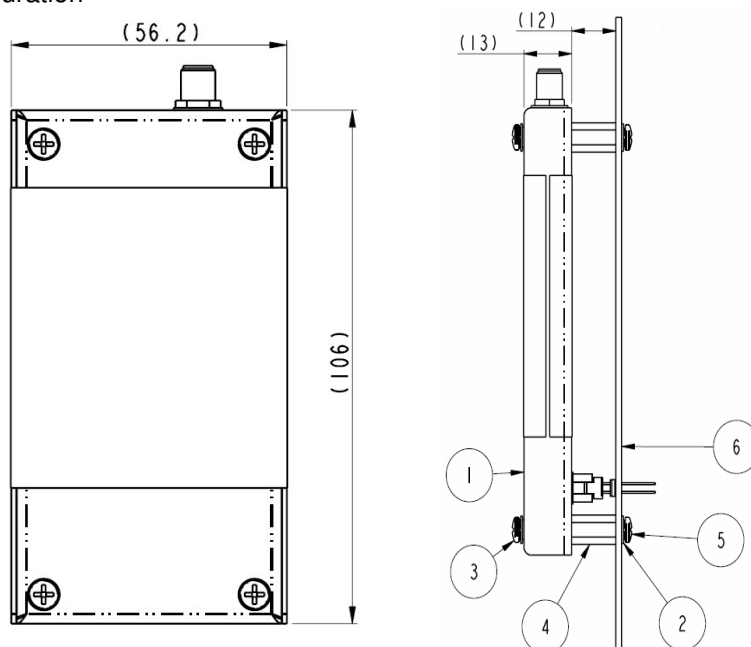

Figure 4: Assembly Item Number Identification. Item Numbers in Figure 4 are described in Table 3.
Table 3: Item Number Description for Figure 4
1. Item 1 is a generic, developer provided PCB design and shown for illustrative purposes. This item is the same as Item 6 in Figure 4.